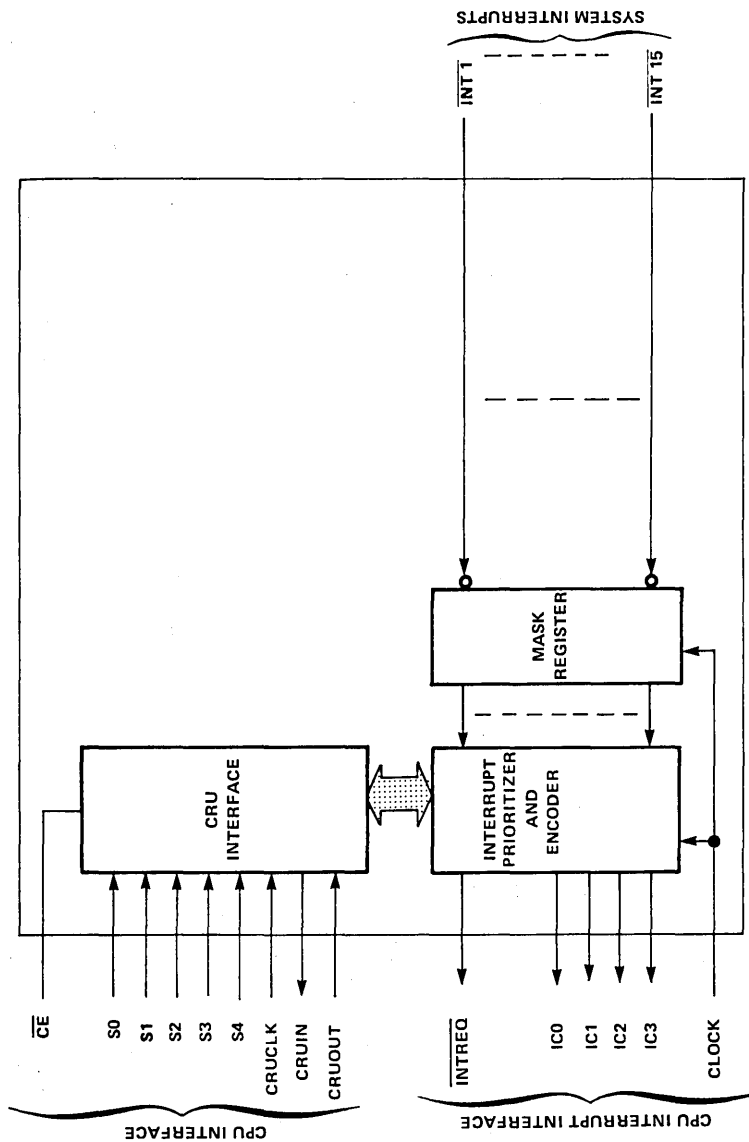

FIGURE 1 - SBP 9961 BLOCK DIAGRAM
The SBP 9961 communicates with the CPU through the Communications Register Unit (CRU) interface as shown in Figures 1 and 3. The SBP 9961's CRU interface consists of: a) five CRU address select lines (S0-S4) b) a single chip enable (CE), c) a 9961-to-CPU serial data-bit line (CRUIN), d) a CPU-to-9961 serial data-bit line (CRUOUT), and e) a CPU-to-9961 serial data-bit clock (CRUCLK). When  $\overline{\text{CE}}$  is activated (logic-level low), S0-S4 selects a specific CRU bit function as indicated in Table 1. In the case of a SBP 9961 write operation, the datum is transferred from the CPU to the SBP 9961 via the CRUOUT line. The CRUOUT datum is strobed into the selected 9961 CRU bit function by CRUCLK. In the case of a SBP 9961 read operation, the selected CRU bit function is sampled by the CPU via the CRUIN line.